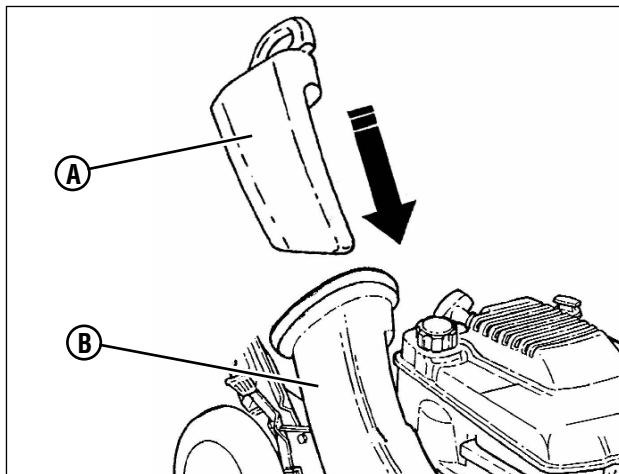

Figure 12: Installing the recycling plug
1. Install the recycling plug (**A**, Figure 12) if recycling is desired after the bag adapter is installed. Install the recycling plug completely and securely into the bag adapter (**B**).